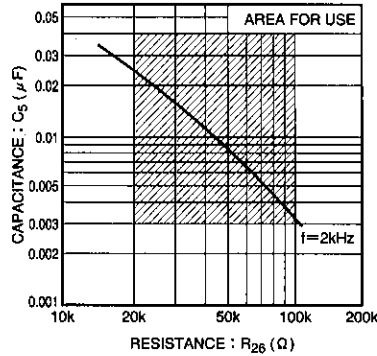

Fig. 7 Value of external components for oscillator (V_{CC} = 5.0V)
- 3) The external resistor R₂₆ connected to the oscillator (pin 28) should be in the range of 20kΩ and 100kΩ. If it is outside this range, oscillation may stop due to the influence of temperature (see Fig. 7).